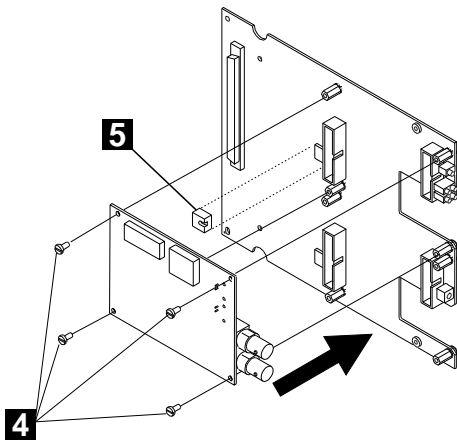

Figure 21. Attaching the I/O Card
- **4** Attach the I/O card to the motherboard using the four screws provided ( **4** in Figure 21).
- \_\_\_ **5** Unscrew and remove the four screws that attach the I/O card to the motherboard ( **4** in Figure 21 on page 83) and remove the I/O card.
- \_\_\_ **6** Remove the VPD PROM chip for the I/O card being replaced. ( **5** in Figure 21 on page 83).